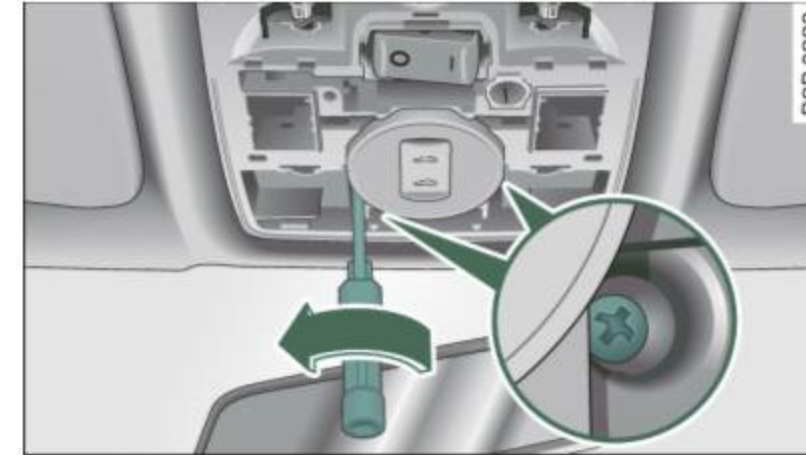

Fig. 62 Light unit in the headliner: removing screws in the light unit
- Turn the two screws in the light unit in a counter-clockwise direction to remove ⇒ fig. 62.